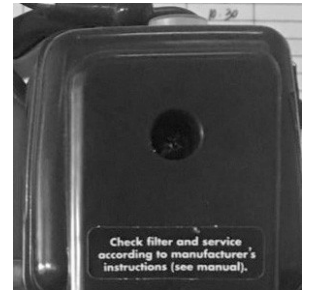

Figure 5
1. Remove the air filter cover, which is held in place by a nut and is located on top of the Water Pump. (A, Figure 5)